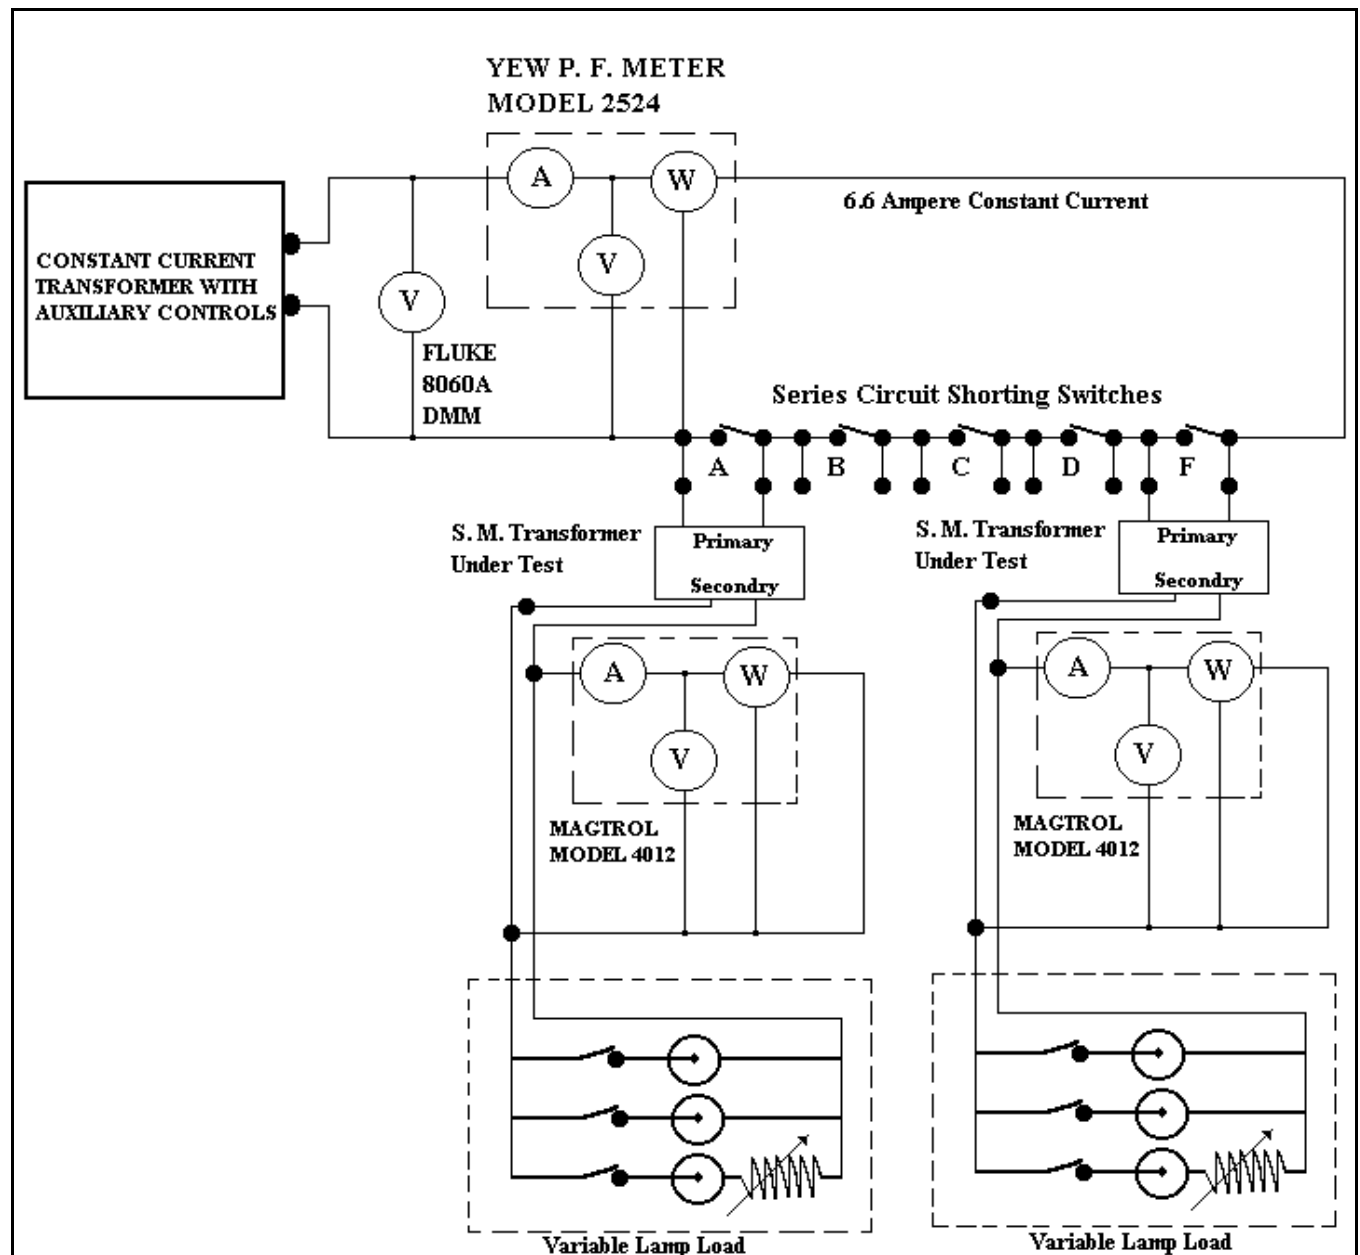

Figure 1.
1. Arrange the apparatus as shown in Figure 1 with commercial power off.
4. Arrange the apparatus as shown in Figure 1 with commercial power off.